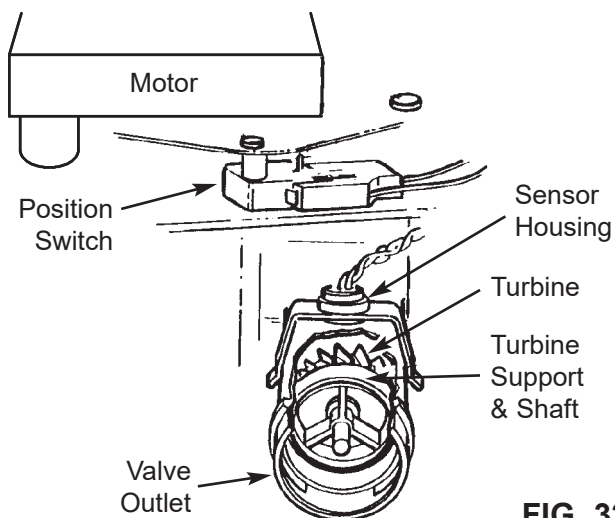

FIG. 32
- NOTE:** If you don't get a reading in the display with faucet open, pull the sensor from the valve outlet port. Pass a small magnet back and forth in front of the sensor. If you get a reading in the display with the magnet, unhook the in and out plumbing and check the turbine for binding (See Figure 32).